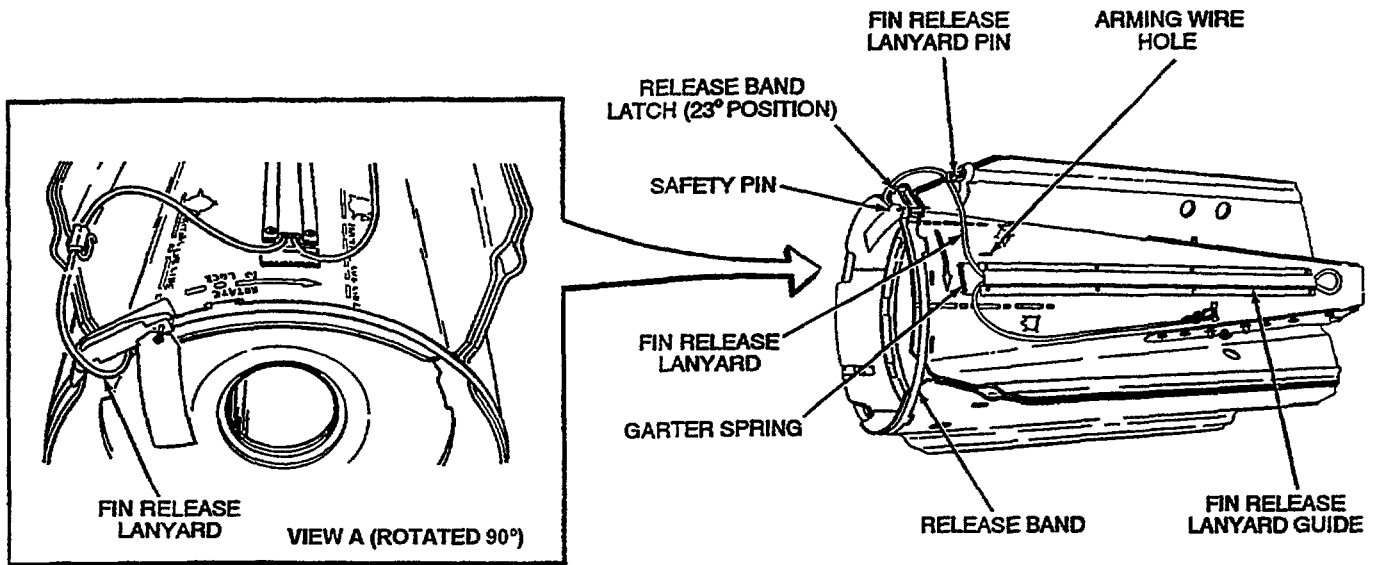

Figure 4-6A. Bomb Fin MAU-91A/B
- Uncrate bomb fin and position fin on deck with fin release lanyard guide on top (Figure 4-6A). Retain wooden adapters for repackaging (if applicable). If present, remove suspension lugs from aft adapter cap.
- Verify fin release lanyard is routed outside of fin release band and release band is positioned 23 degrees from top dead center as shown in Figure 4-6A. Lanyard release should be routed as follows: Route lanyard exiting fin release lanyard guide through the fin release lanyard pin in its stowed position clipped to the fin upright, then circling forward of the fin release band and to the
- g. Lay fin on its side with fin release lanyard guide up (Figure 4-6A).
- l. Install release band around fin ensuring fin release lanyard is routed outside of release band and engaging tabs on band with slots in fin section (Figure 4-6A and Figure 4-6B). Do not catch fin release lanyard between band and fin blade.